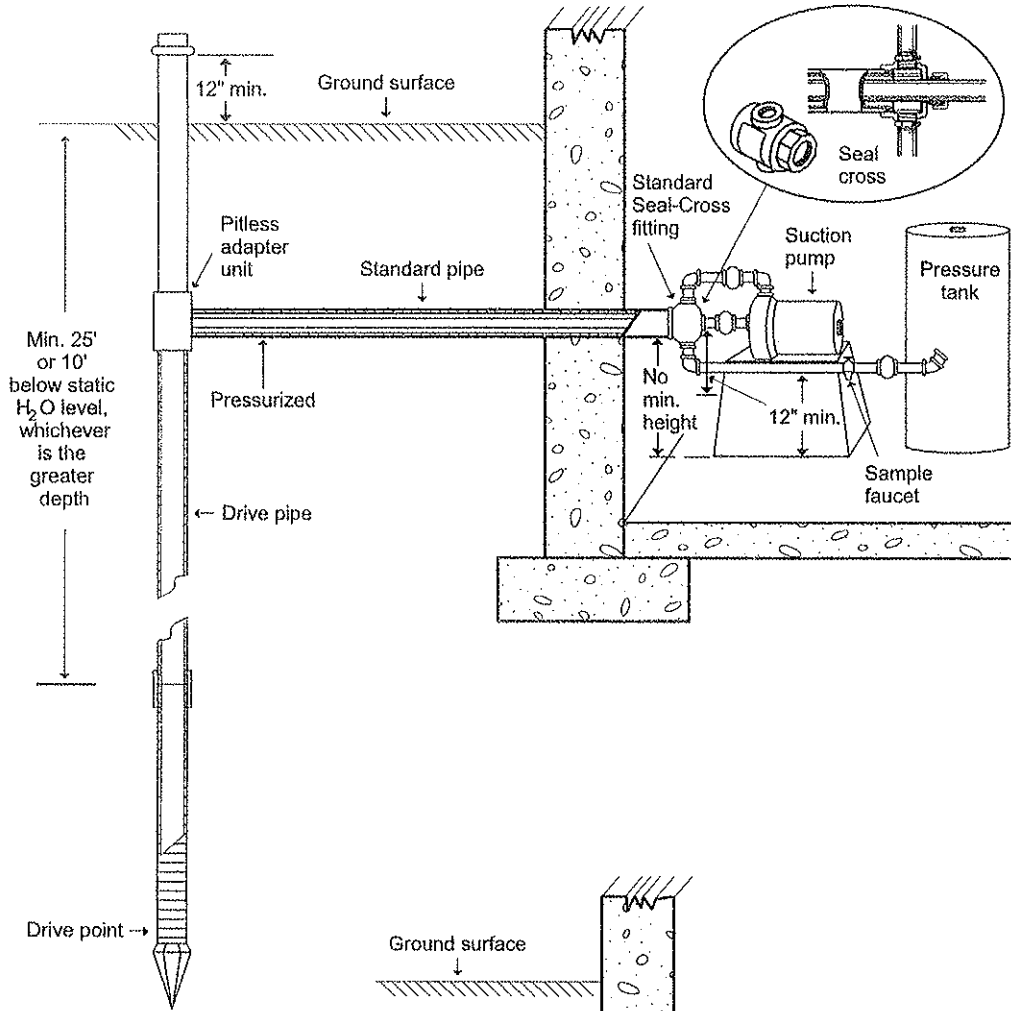
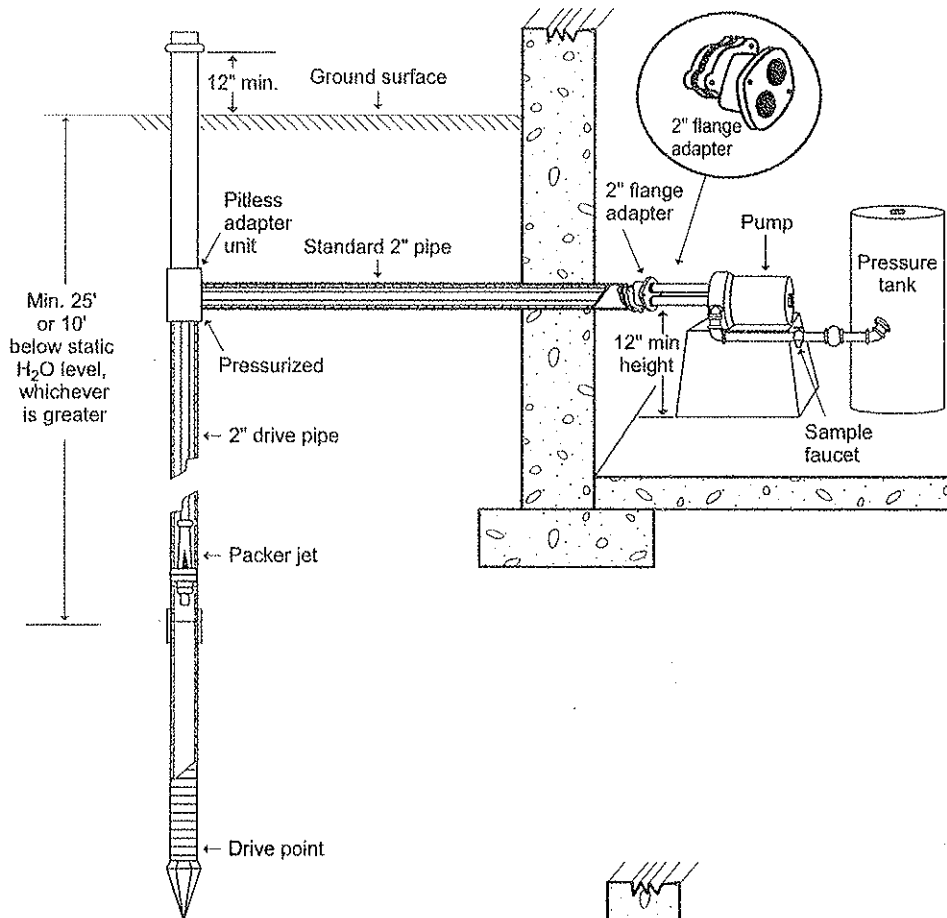

Figure 2.
Figure 3.
- ▼ **Minimum Diameter:** There is no minimum diameter for driven-point wells installed with a “shallow” well pump. Atmospheric pressure of about 14.7 pounds per square inch allows a “shallow-well” pump to “pull” water up from a maximum depth of only about 20 feet (Figure 2). However, if you know the pumping water level will be deeper than about 20 feet, then you must use drive pipe having a minimum diameter of at least 2 inches. This is necessary because the drive pipe must be large enough to accommodate a “packer-jet assembly” to be installed within the pipe to enable the pump to “pull” water up from a greater depth. (See Figure 3). Remember, you are **not** allowed to construct a pit to get the pump closer to the water table to enable you to use a shallow-well pump.
- ▼ The annular space between the concentric piping must be pressurized under water pressure by installing a “seal-cross fitting” or a “flange adapter.” (Figure 2).
- ↪ Offset connection using horizontal pressurized concentric piping if the well is installed outside with the pump "offset" in the basement (*Figures 2 and 3*).
- ↪ Shallow-well jet suction pump for water levels less than about 20 feet deep. (*Figure 2*).
- ↪ Deep-well type pump with a packer-jet assembly for water levels deeper than about 20 feet. The minimum well diameter for this type of pump is 2 inches in order to accommodate the installation of the jet assembly in the well (*Figure 3*). This type of pump can be used efficiently for wells having pumping water levels down to about 70 to 100 feet.